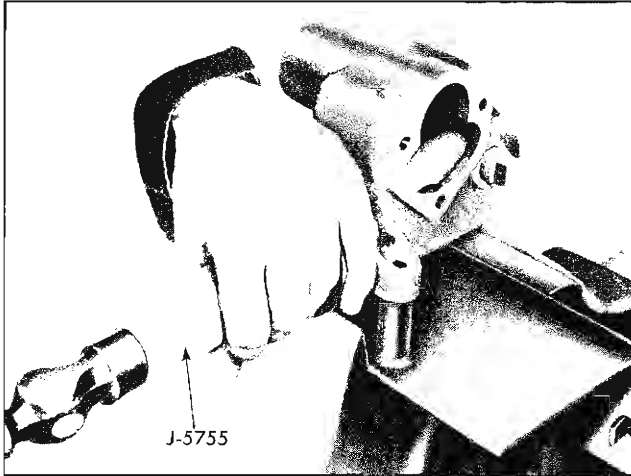

Fig. 9-25 Installing Upper Bearing Cup
3. Install upper bearing cup using tool J-5755 (Fig. 9-25).